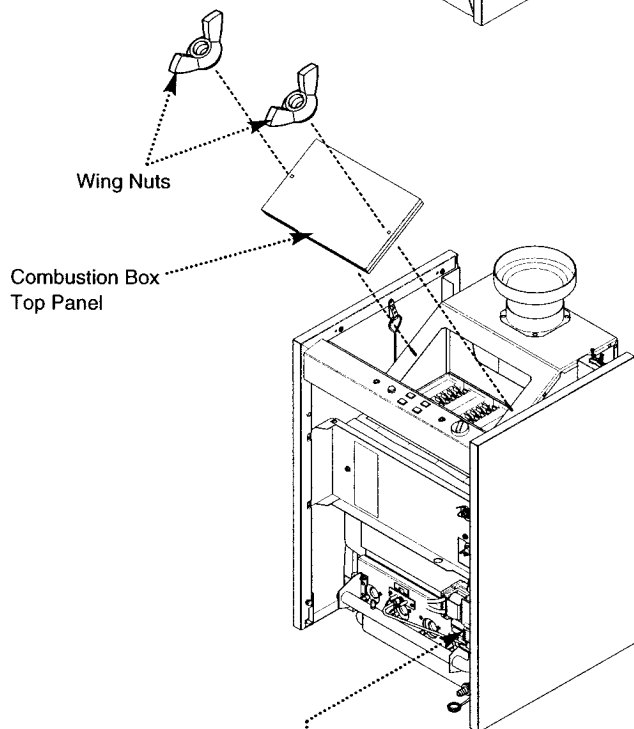

Fig. 23
7. Undo the wing nuts securing the combustion box top panel (Fig. 23). Remove the panel.